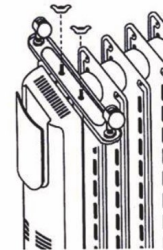

Fig. 3
4. Draw up two finger nuts on one side and two finger nuts on the other - in clamp extensions passed through the wheel plate supports, after making sure that 2 openings in the wheel plate match together with the clamp extensions (see Figure 3).